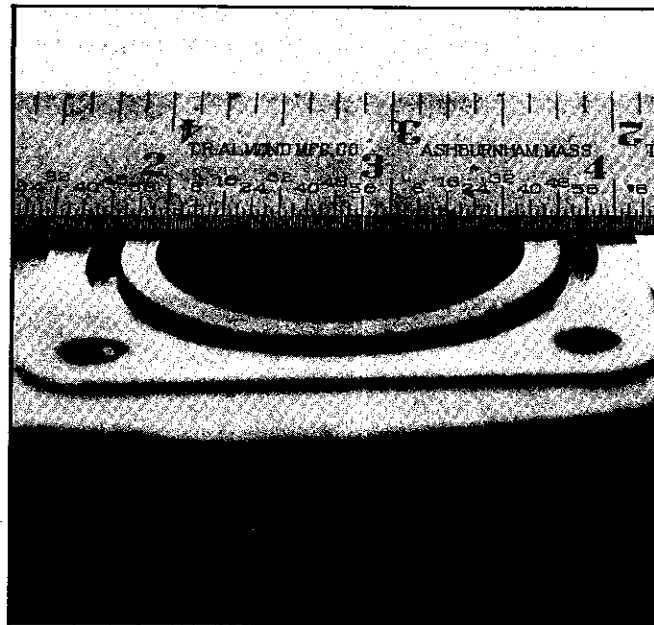

Figure 19. Pintle bearing spacer height with respect to pintle face.
d. Set housing (33) on its side so the other pintle is up. Install bearing spacer (61) and rotate the yoke back and forth to seat bearings (63) within the bearing races. With spacer (61) fully in against the bearing race, measure the height of the spacer with respect to the housing pintle face in two places (180° apart). Use a depth micrometer to perform this measurement. See Figure 19. Average the readings to obtain a nominal value. A